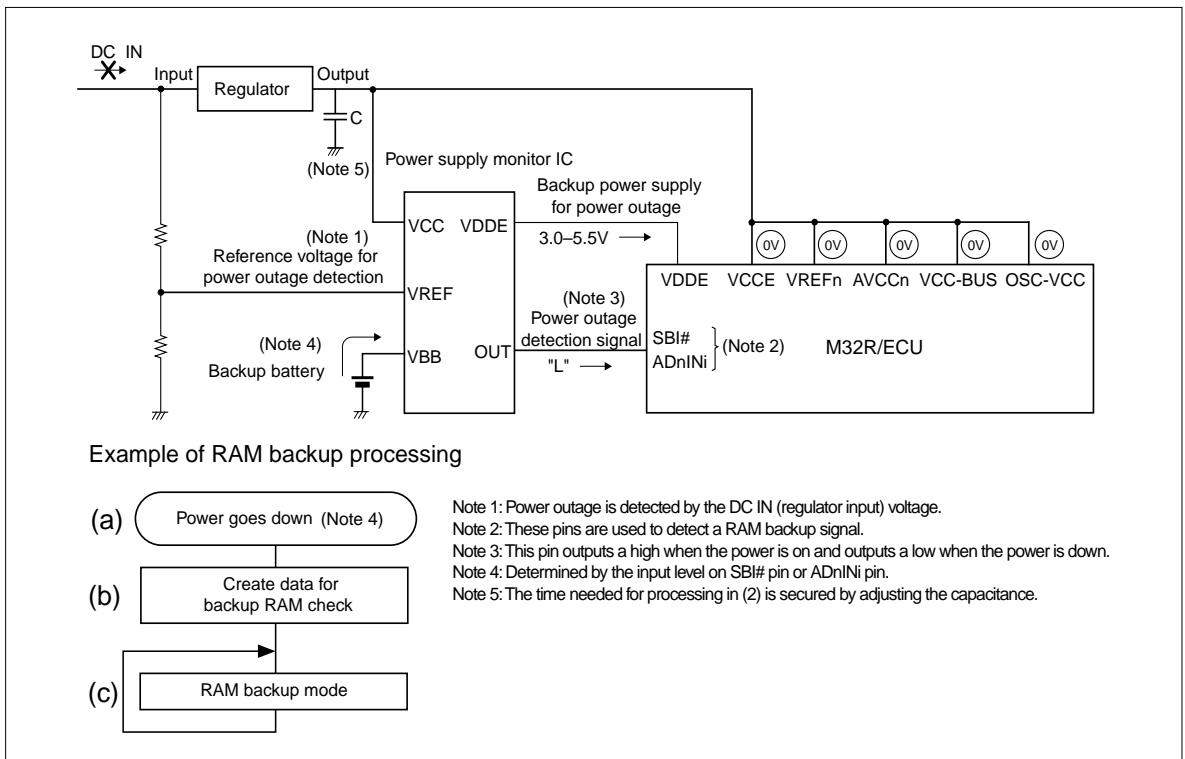

Figure 17.2.3 Power Outage RAM Backup State
Figure 17.2.3 shows the power outage RAM backup state of the M32R/ECU. When the power supply goes down, the power supply monitor IC starts feeding current from the backup battery to the M32R/ECU. Also, the power supply monitor IC's power outage detection pin outputs a low, causing the SBI# pin or ADnINi pin to go low, which generates a RAM backup signal ((a) in Figure 17.2.3). Determination of whether the power is down must be made with respect to the DC IN (regulator input) voltage in order to allow for a software processing time at power outage.
(1) Create data for RAM check to verify after returning from RAM backup mode to normal mode whether the RAM data has been retained normally ((b) in Figure 17.2.3).
If the power supply to VCC goes down after setting is made in (1), the VDDE pin voltage goes to 3.0–5.5 V and all other pin voltages drop to 0 V, and the M32R/ECU is thereby placed in RAM backup mode ((c) in Figure 17.2.3).